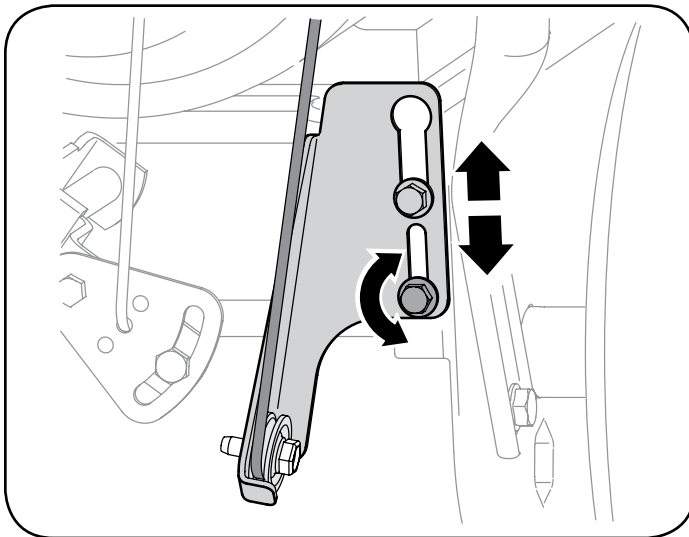

Figure 51
- b. Loosen the lower hex bolt on the drive cable bracket. See Figure 51.